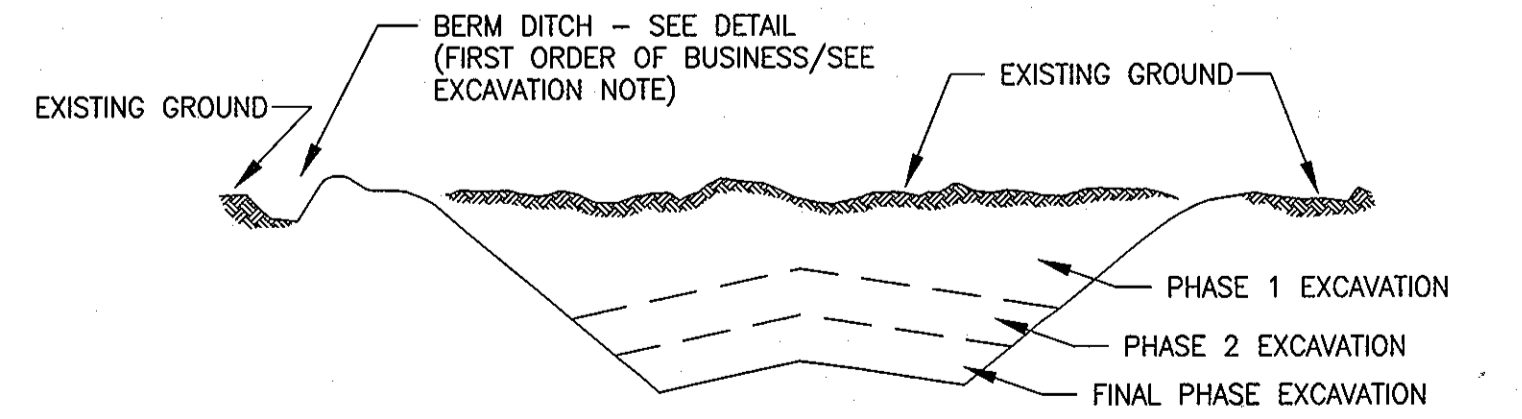

FIGURE 4: INCREMENTAL STABILIZATION - CUT
- A MULCH ANCHORING TOOL IS A TRACTOR-DRAWN IMPLEMENT DESIGNED TO PUNCH AND ANCHOR MULCH INTO THE SOIL SURFACE A MINIMUM OF TWO (2) INCHES. THIS PRACTICE IS MOST EFFECTIVE ON LARGE AREAS, BUT IS LIMITED TO FLATTER SLOPES WHERE EQUIPMENT CAN OPERATE SAFELY. IF USED ON SLOPING LAND, THIS PRACTICE SHOULD BE USED TO THE CONTOUR IF POSSIBLE.
- CONSTRUCTION SEQUENCE (REFER TO FIGURE 4 BELOW):